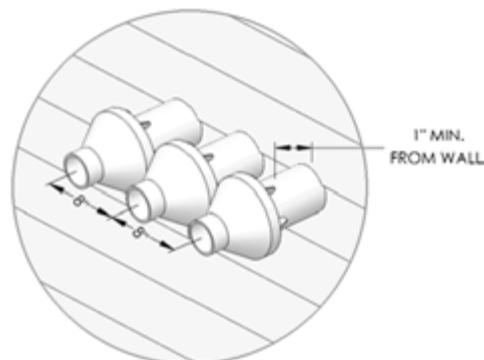

Figure 7: Multiple Boiler Installations
9. Allow 8" center-to-center distance between concentric vent terminations on multiple boiler installations. (See Figure 7)